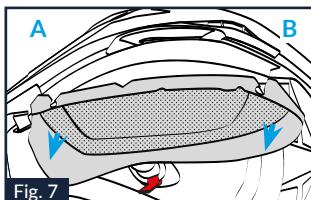

Fig. 7
5.5. Pull brackets "A" and "B" of the pad of the left cheek pad upwards to unhook them from the corresponding plates between the outer shell and polystyrene cheek pad (Fig. 7).
12.2. Put the left cheek pad inside the helmet and insert the rear bracket "B" in the corresponding plate between the outer shell and polystyrene cheek pad by pressing until it is fastened (Fig. 7).
12.7. Insert front bracket "A" in the corresponding plate between the outer shell and polystyrene cheek pad, then press it until it becomes fastened (Fig. 7). Place the front red strap against the inner surface of the chin guard.